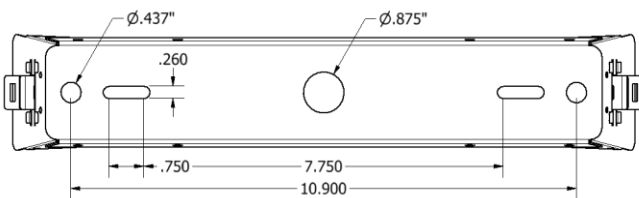
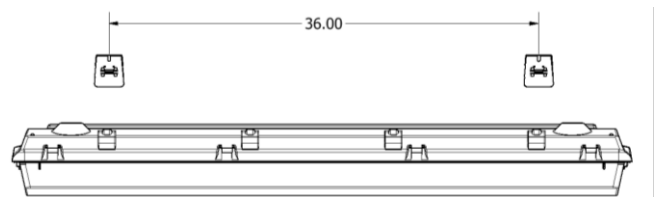

Figure 3
Figure 4
1. See Figure 3 for RMK Detail. Install the RMK mounting brackets to the facility mounting points 36.0" apart as shown in Figure 4.